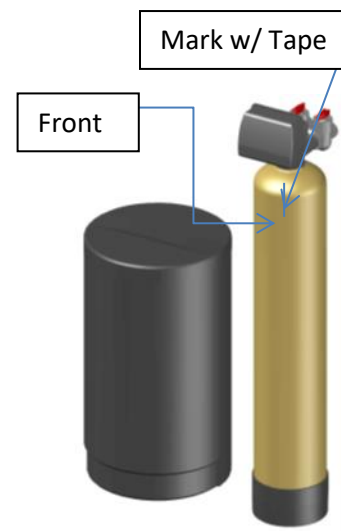

Figure 8: How to Block Distributer Tube
- c. Cover the exposed end of the distributor riser(s) to make sure no resin gets inside. Covering up the riser(s) with duct tape is one option, shown in Figure 8.
- C. Position the distributor tube so it is in the center of the tank, shown in Figure 8.